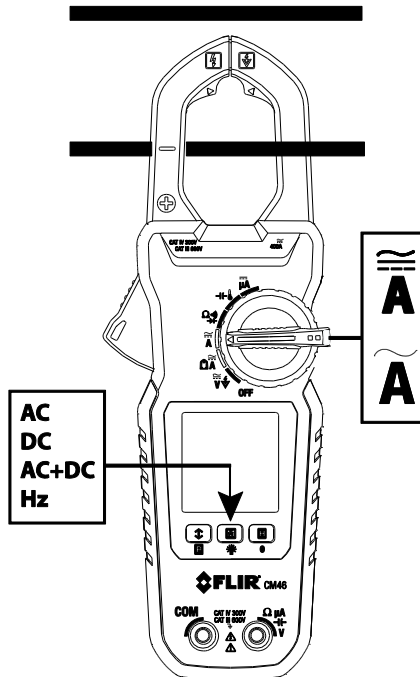

Figure 5-3 Correct and incorrect clamping
5. Press the trigger to open the clamp jaws and fully enclose one pole of a circuit—refer to Fig. 5-3. For optimum results, center the conductor in the jaws.